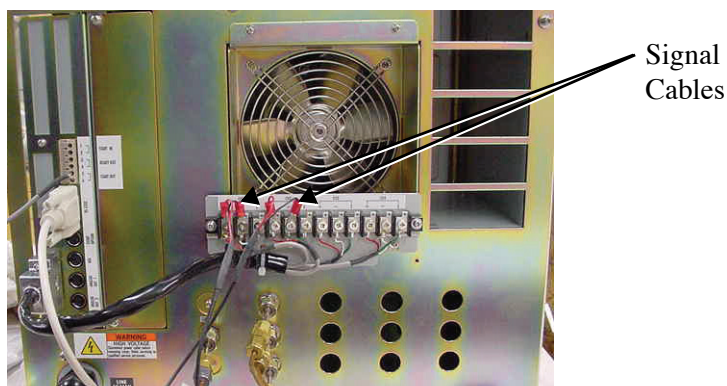

Figure 4.16. Connection using two signal cables
4. Connect the spade lug end of the signal cable(s) to the terminal strip, the red wire to “+”, and the black wire to “-”; see Figure 4.16.